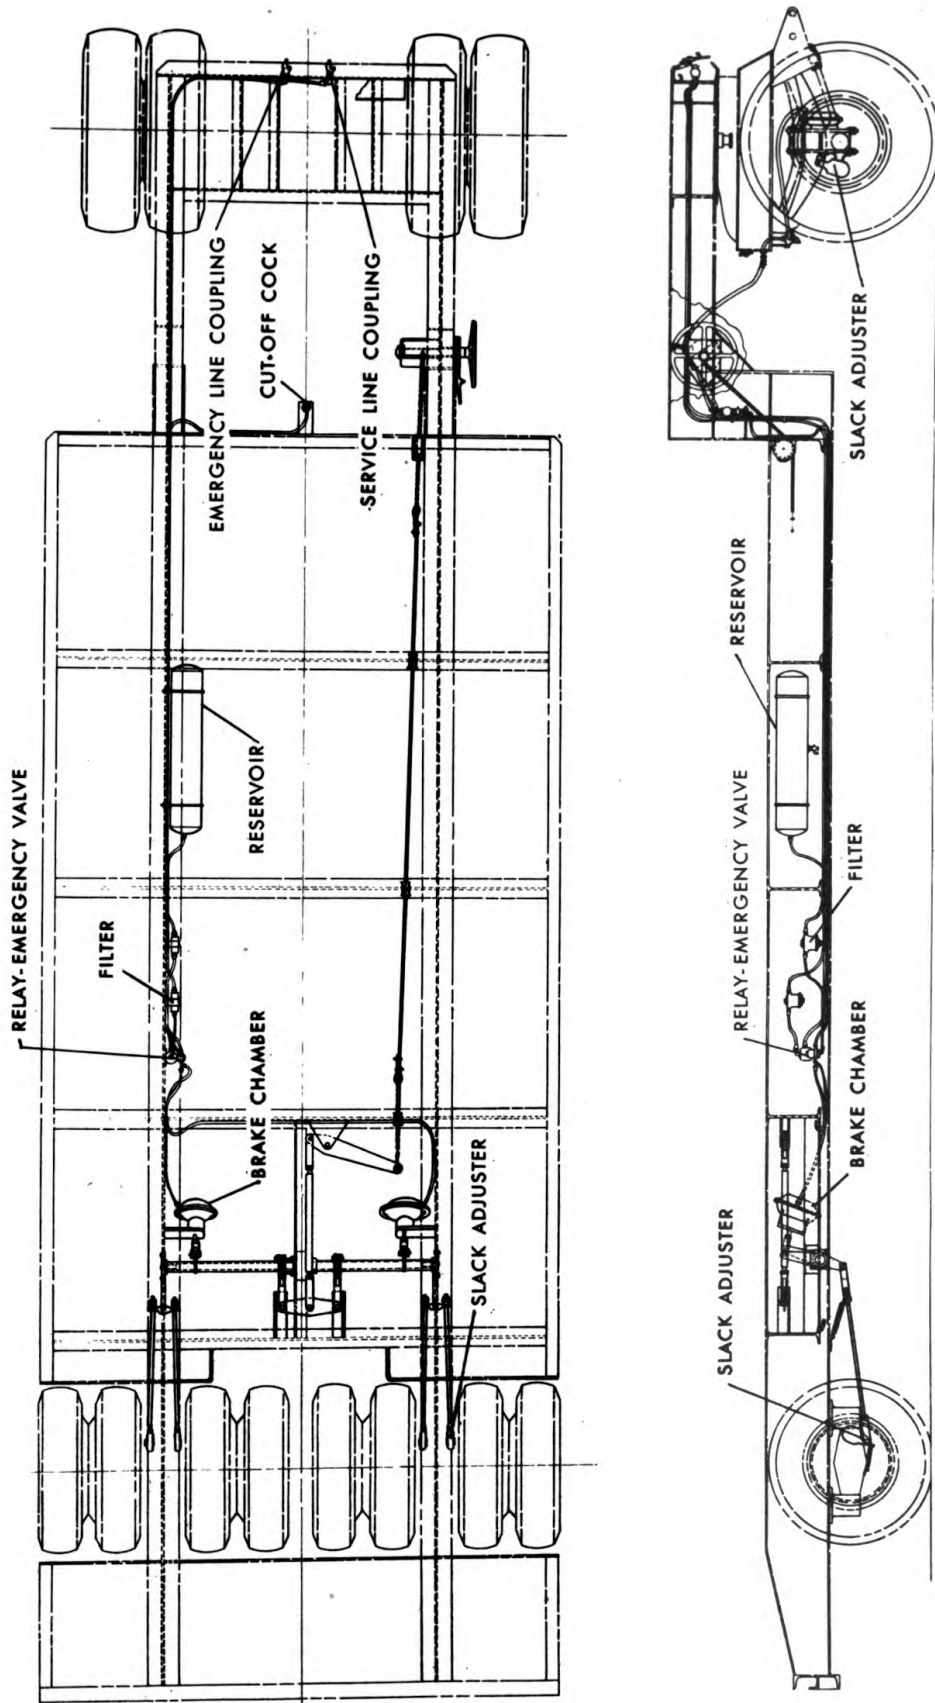

Figure 27— Air Brake System Diagram.
1. Complete Air Brake System. (See figure 27.)